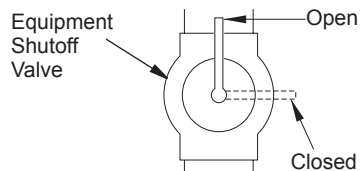

Figure 15 - Equipment Shutoff Valve
1. Close equipment shutoff valve (see Figure 15).
1. Open equipment shutoff valve (see Figure 15, page 14).